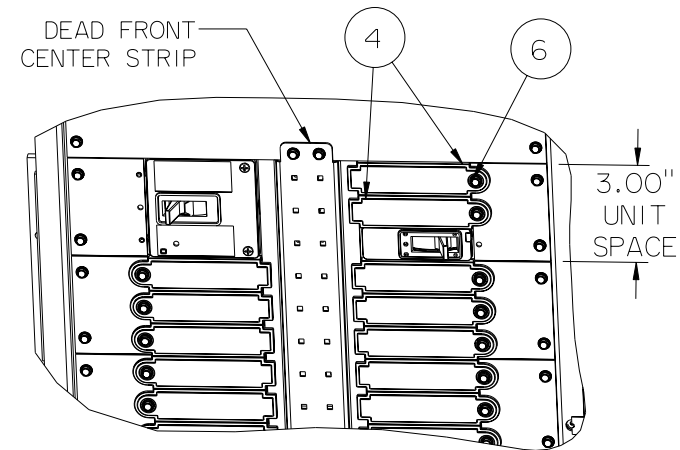

Figure 6
14. Refer to fig. 6. - Insert 1" dead front fillers (item 4) into all P3 dead front branch spaces not filled with breakers.